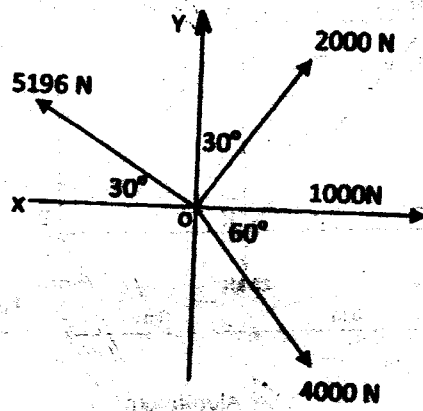
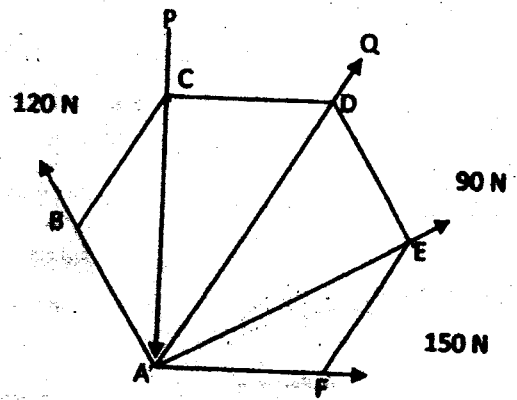

Figure 1
Figure 2
- Q-1 a Using analytical method determine magnitude and direction of resultant of coplanar concurrent force system shown of Figure 1. (05)
- b State 'Law of Parallelogram of forces'. Derive an expression for the same law with the aid of neat diagram. (02)
- Q-2 a State Lami's theorem and conditions to apply Lami's theorem. (02)
- b ABCDEF is a rectangular hexagon plane. Force 120 N, P, Q, 90 N and 150 N acts along AB, CA, AD, AE and FA respectively as shown in Figure 2. Find force P and Q for the condition of equilibrium of the system. (06)